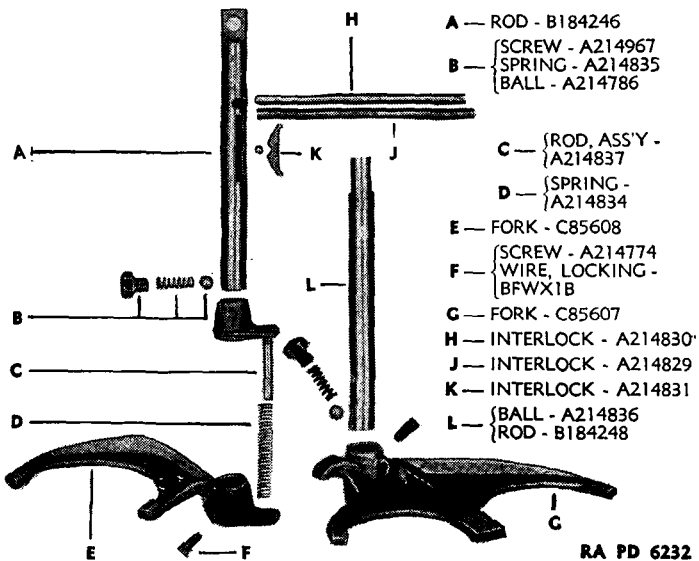

FIGURE 125.—Transfer case shifting mechanism, exploded.
(1) Separate transfer case from transmission. Proceed as outlined in step *c*(5) above.
(2) Remove shift rod cover and interlocks— $\frac{7}{16}$ -inch socket wrench. Remove three cap screws (BCAX1CA) and lock washers (BECX1G) holding transmission shift rod cover (B184294) to transfer case and remove cover and gasket (B184295) (fig. 76). Lift short first speed shift rod interlock (A214829) and long front drive shift rod interlock (A214830) out of holes in top of case (fig. 125).
(18) Remove front-drive shaft shift rod—cutting pliers,  $\frac{7}{16}$ -inch square socket wrench, brass drift, hammer (or press). Remove locking wire and set screw (A214774) holding front-drive shaft shift fork (C85607) to shift rod (B184247) (figs. 125 and 126). Remove front-drive shaft shift rod rocker interlock (A214831) by pushing fork toward rear of case and pressing down on one end of interlock and lifting out of slot in shaft. Pull shaft out and lift the following out of case: shift fork, shift rod bracket (A214837),
(19) Remove direct- and underdrive-shift rod—cutting pliers,  $\frac{7}{16}$ -inch square socket wrench. Cut locking wire and remove set screw (A214774) holding direct- and underdrive-shift fork (C85608) to shift rod (B184248) (figs. 125 and 126). Pull shaft out of case and lift fork out.
(20) Remove shift rod oil seal—brass drift, hammer. Drive direct- and underdrive-shift rod oil seal (A214842) out of case, if necessary to replace.